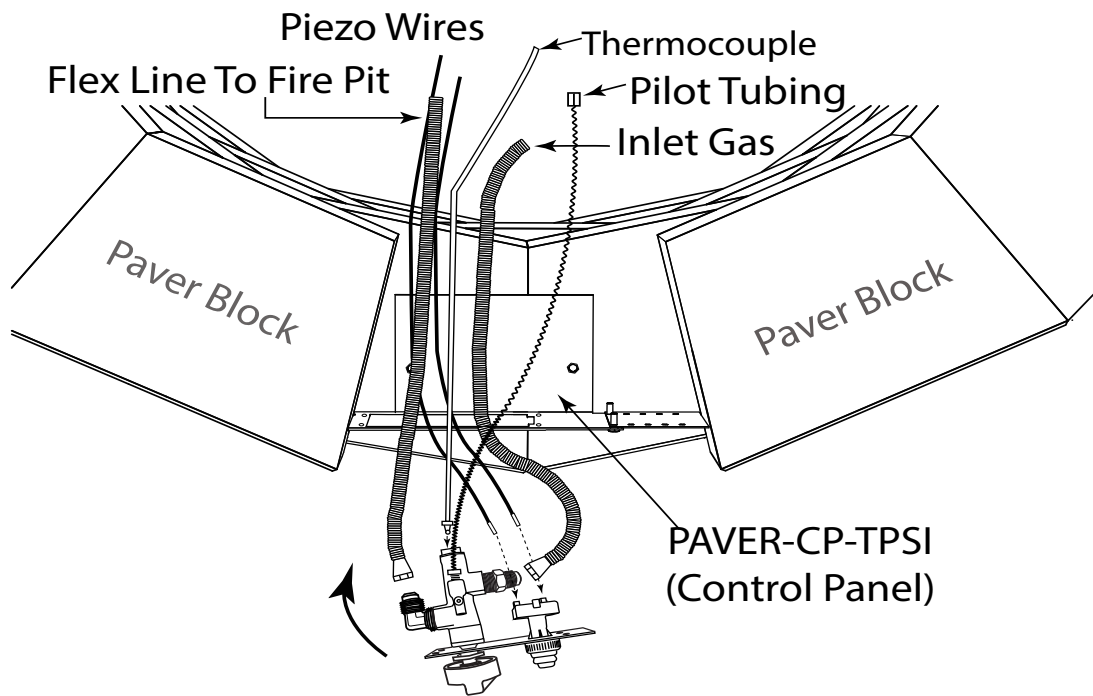

Fig. 8 Installing connections to valve bracket.
STEP 7: Once the fittings and wires are installed into the TPSI valve bracket then insert the valve bracket into Paver Kit Bracket as shown in Fig. 8.